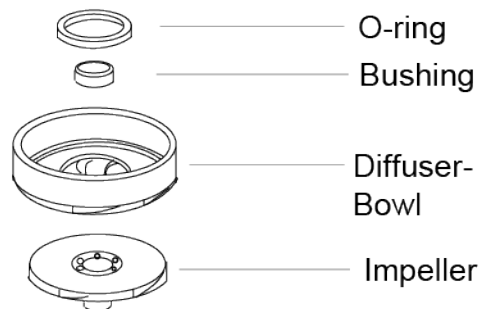

Figure 2.
C) For 4" pumps, loosen the shaft screw and its washer, as these secure the hydraulic body. Then, proceed to remove the impeller-bowl assembly. See Figure 2.